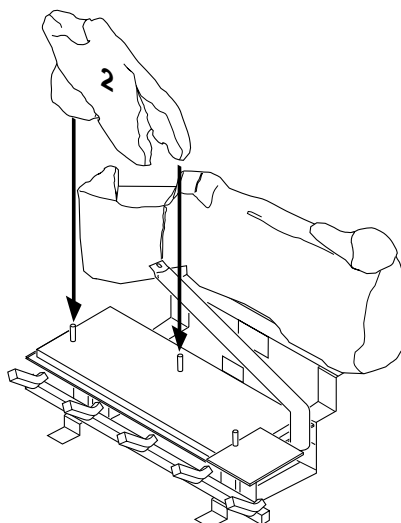

Figure 51 - Installing Log Assembly No. 2
2. Place log #2 (two log assembly) onto pins on left front and middle section of the front burner (see Figure 51).